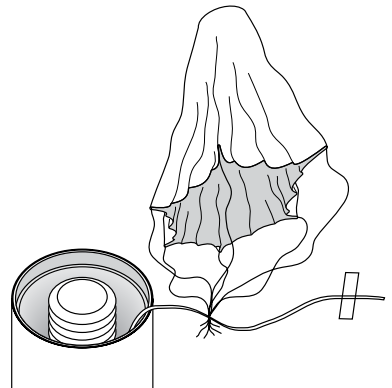

Figure 23
2. Cut two 1-1/2" pieces of masking tape. Center one piece on the shock cord about 3/4" from the free end (Figure 23).